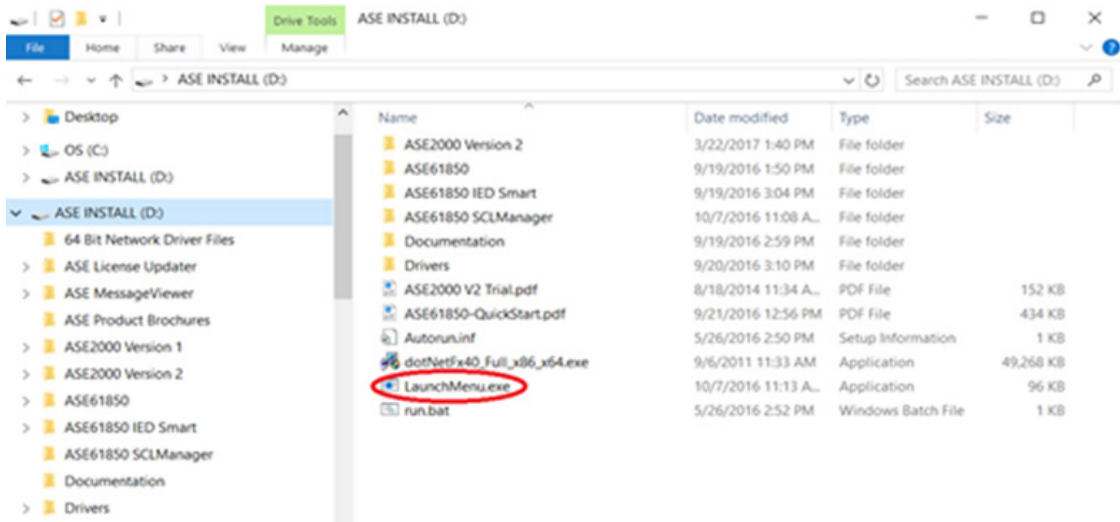

Figure 10: Launch Menu Installation Assistant
1. The screenshot below, Figure 10, shows the “LaunchMenu” application in the top directory of the ASE Installation & Documentation USB Drive. Double-click to run this application.